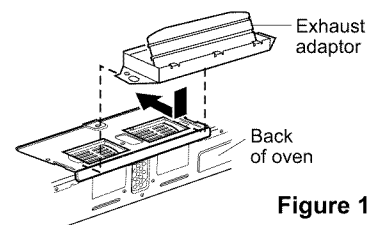

Figure 12
1. Attach the exhaust adaptor to the blower plate by sliding it into the guides. See Figure 12.